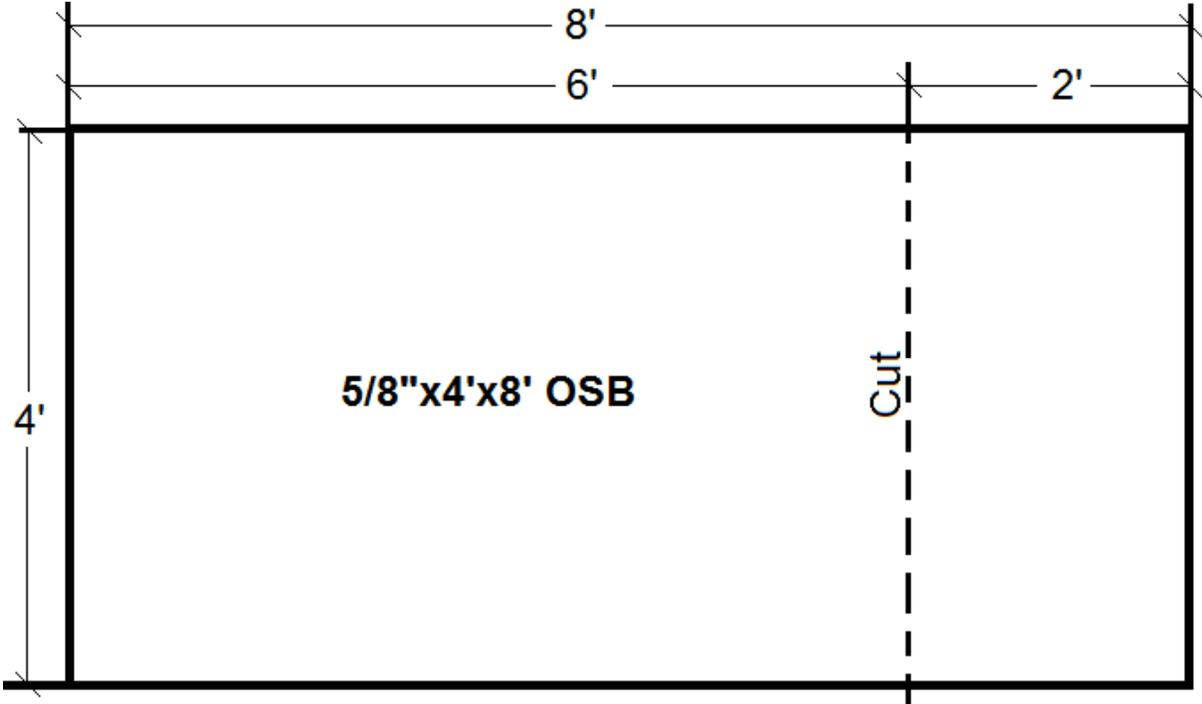

Figure 1-1
- 1 – box 9/16" Truss Washer Lath Screws (100 count) (Figure 1-1)
- 1. Begin with a 5/8"x4'x8' sheet of plywood (Oriented Strand Board). Cut the length to 6' (Figure 1-1).